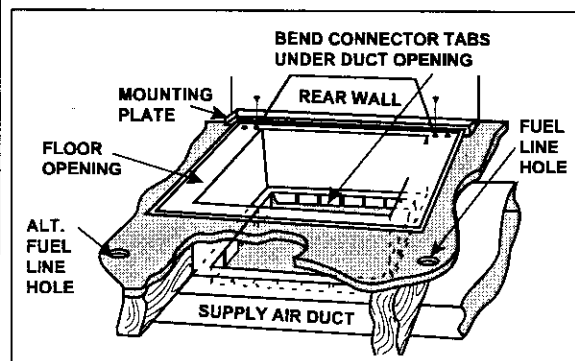

Figure 9. Duct Connector
- a. Place duct connector through the floor opening with bottom tabs extending through the duct opening. (See Figure 9)